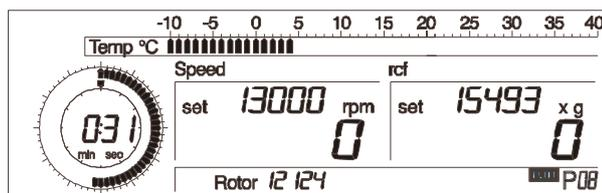

Fig. 5.22:
- Turn the left rotary knob until “run” appears on the display (Fig 5.22).